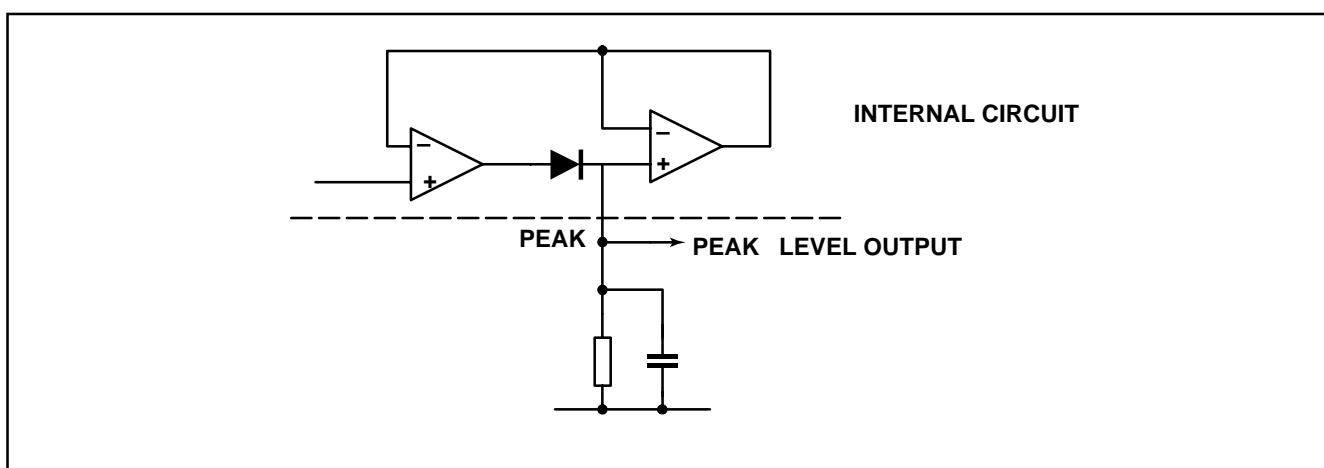

Fig. 5 Peak detector output
2. For coding schemes with d.c. content (e.g. low duty cycle pulse width modulation) an active peak detector is included. The output at pin PEAK represents the peak level at the data filter output (as shown in Fig.5). An external RC time constant at this pin determines the maximum attack and decay times of the peak detector. Typical values for the leakage and diode current source capability are shown in the specifications. The comparator has relatively low drive capability (push/pull current source output of 20 μ A) and hence DATOP should not be excessively loaded. On chip positive feedback around the comparator provides a nominal hysteresis level of 20mV.